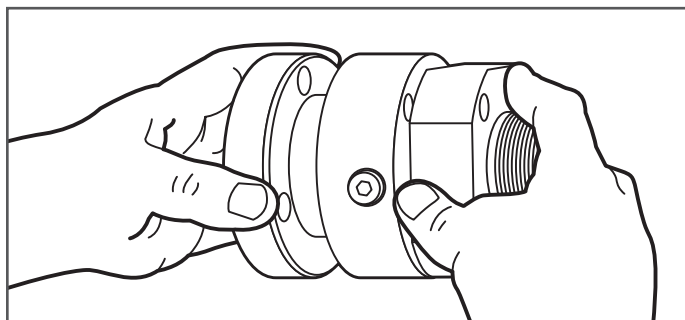

Figure 7-9
10. Separate the three sections of DoubleTrac® fitting (Figure 7-9).